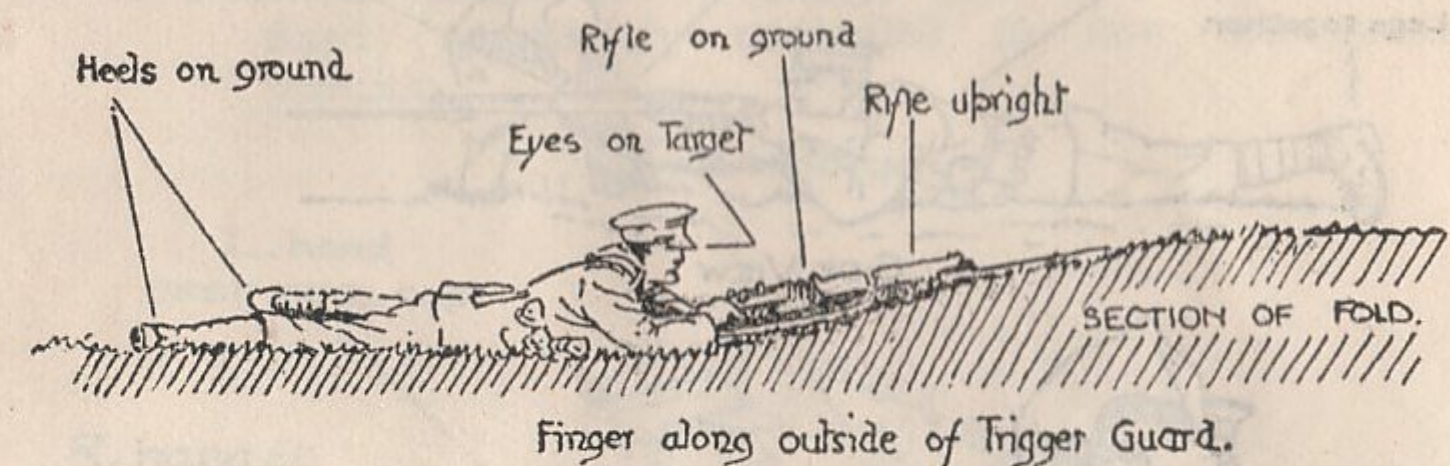

FIG. 25
- i. *Position behind cover.*—Body, rifle and bayonet (if fixed) completely concealed in any convenient position (see Fig. 25).